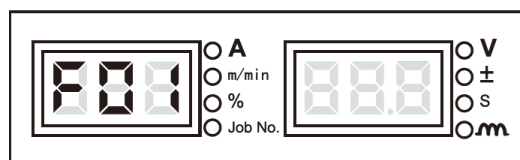

Figure 3-45 Restore to factory settings
1. Enter the internal menu, the left digital tubes will display **F01**, other digital tubes will display as shown in Figure 3-45.